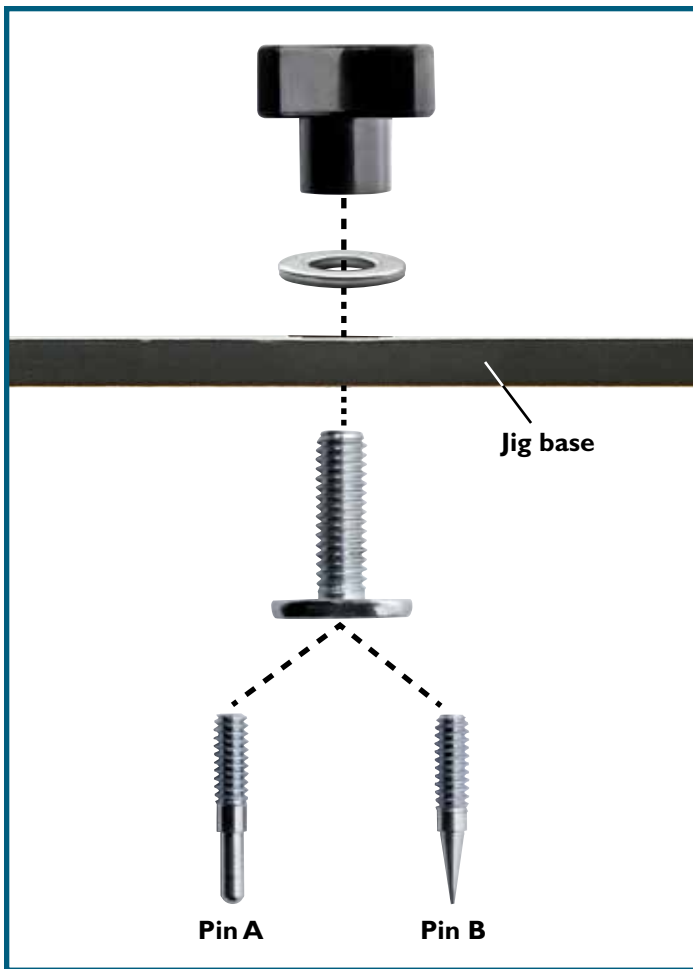

Fig. 1
4. Assemble pivot point and knob. **Fig. 1**. Use Pin A when you plan to have the bottom surface of your workpiece facing up and you've drilled a center hole to register the pin. Use Pin B when you plan to cut with the top surface facing up.